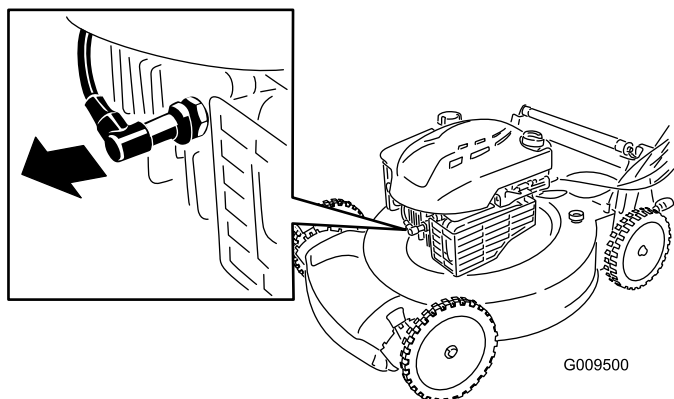

Figure 17
2. Disconnect the spark plug wire from the spark plug (Figure 17) before performing any maintenance procedure.